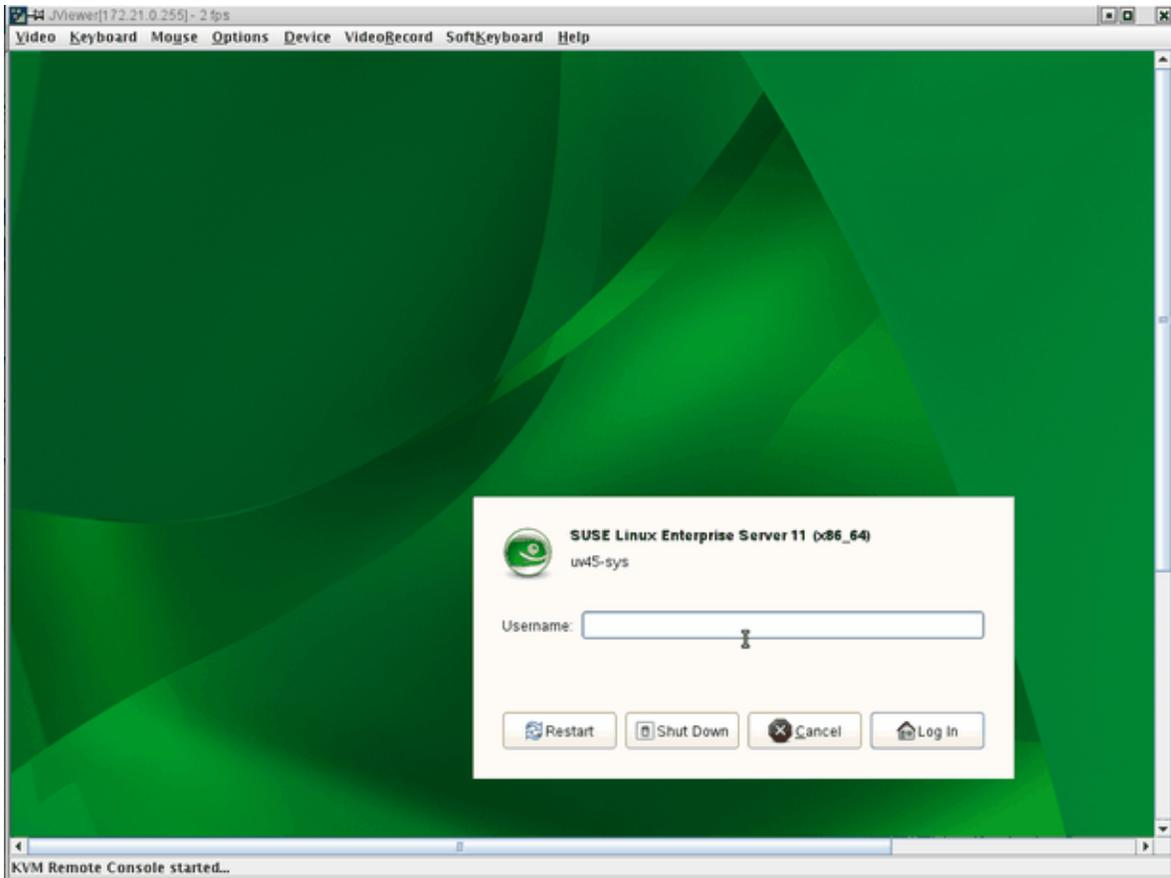

Figure 3-11 SUSE Linux Enterprise Server 11 (x86_64) Login Screen
14. The **SUSE Linux Enterprise Server 11 (x86_64)** login screen appears, as shown in Figure 3-11 on page 44. Log in as root user